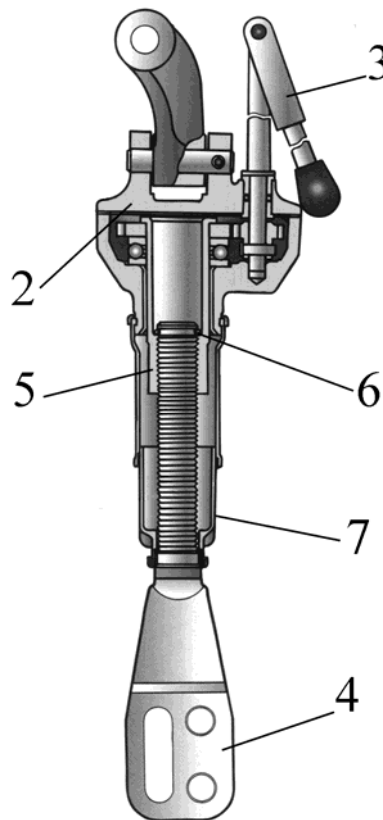

Figure 9.12 Gear brace.
- 2) unscrew four bolts 4, 5 (Figure 9.11) and remove cover 2 (Figure 9.12), as an assembly with handle 3;
- 3) screw yoke 4 (Figure 9.12) inside tube 5, upwards to the end;